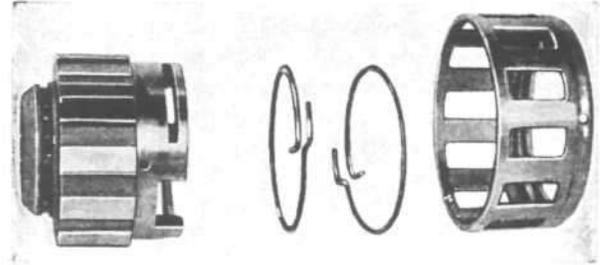
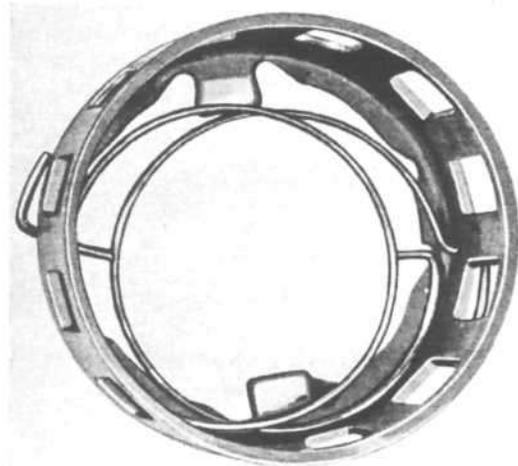

FIG. 200--FREEWHEELING CAM RETAINER
FIG. 201--FREEWHEELING CAM RETAINER WITH SPRINGS ASSEMBLED
- p. Examine the freewheeling cam and retainer assembly thoroughly before disassembly. See Fig. 200 and 201. The roller retainer springs (19) place a tension on cam (21), holding the cam in a counter-clockwise position when viewing the cam from the rear. Also, the high part of the ramps of the cam are under the roller openings of the retainer, forcing the rollers outward. The hooked ends of the two retainer springs extend to the right (still view from the rear) of the holes in the roller retainer. One of the two holes in the retainer is closer to the forward end of the retainer than the other hole; also, one of the two holes in the cam is closer to the forward end of the cam than the other hole. This keeps the two springs from overlapping each other. The spring that is hooked into the forward hole in the retainer is also hooked into the forward hole of the cam. When disassembling the unit, hold the assembly in the left hand. With the right hand, pull the cam to the rear, stretching the springs until the ends of the springs in the cam
e. Use care when assembling the freewheeling cam and retainer assembly. See Fig. 200 and 201 and Par. K-21p. To reassemble, hook the two springs into the retainer, making sure the hooked end points to the right (Fig. 201). Place the retainer on the bench with the open end (rear) up. Make sure the springs are not crossed. Take hold of the free end of the rear spring and stretch it up clear of the retainer, hook the end of the spring into the rear hole in the cam, and let the cam down into the